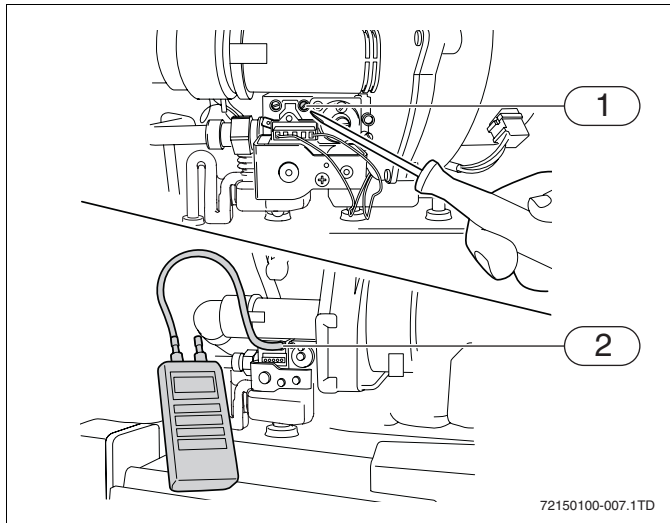

Fig. 8 Checking the gas/air ratio
- ▶ Loosen the screw plug on the measuring nipple for the burner pressure by two rotations (→ fig. 8, [1]).
- ▶ Use a hose to connect the plus terminal of the pressure gauge to the burner pressure measuring nipple (→ fig. 8, [2]).